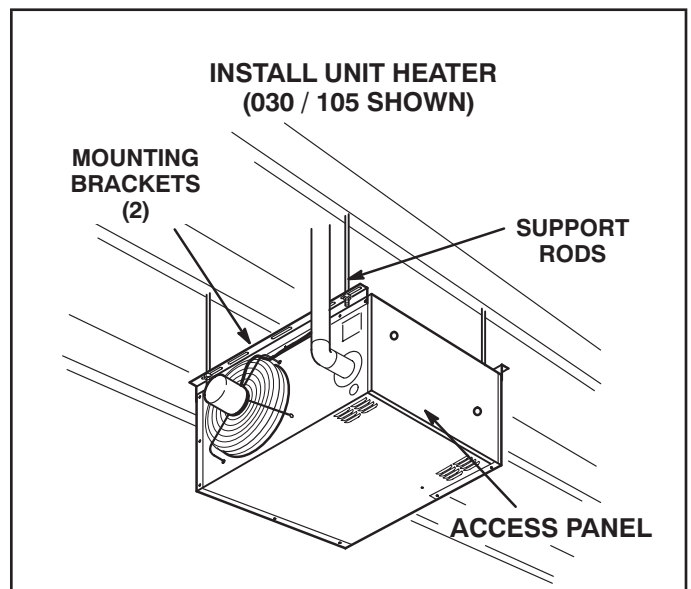

FIGURE 5
Unit may be installed as shown in figure 5 or rotated 180°.
- 6 - To support unit, secure mounting bracket to ceiling joist or truss. Unit may also be supported using support rods as shown in figure 5.